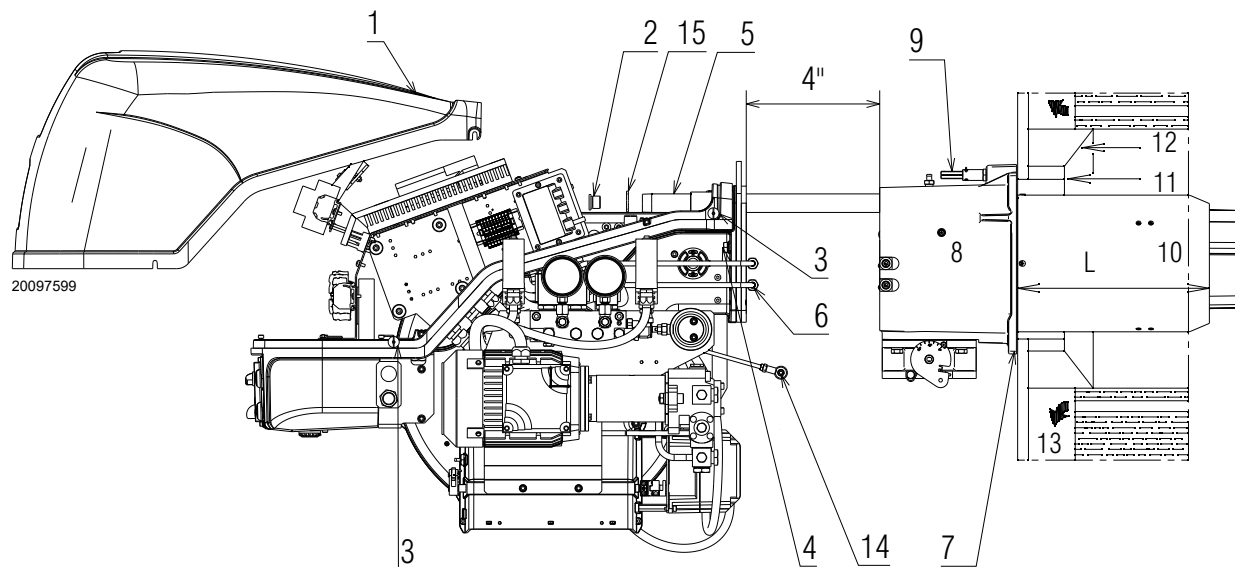
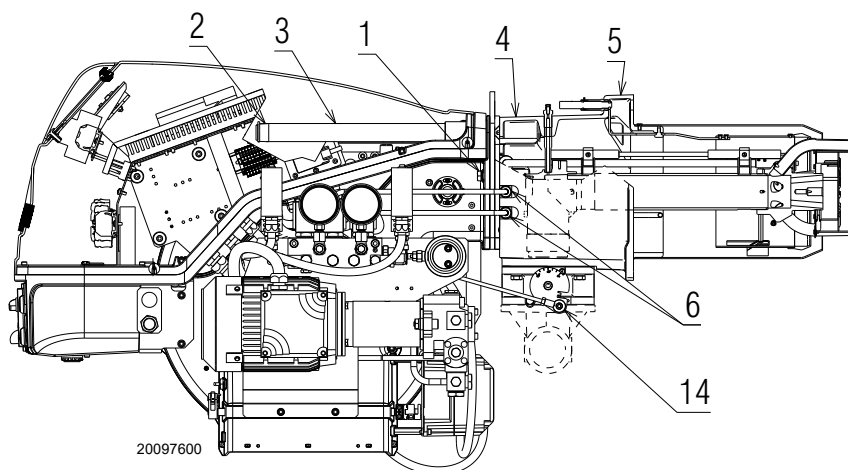

Fig. 12
Fig. 25
For boilers with front flue passes 13)(Fig. 12, page 20) or flame inversion chambers, insulation material 11) must be inserted between the refractory 12) and the blast tube 10).
For boilers having a water-cooled front, the insulation 11)-12)(Fig. 12, page 20) is not required unless it is required by the boiler manufacturer.
Detach the combustion head from the burner, (Fig. 12):
- Refit the burner to the slide bars 3)(Fig. 25) at approximately 4" from the sleeve 4) - burner positioned as shown in Fig. 12, page 20 - insert the ignition electrode cables.
- Slide the burner up to the sleeve so that it is positioned as shown in Fig. 25;
- refit screws 2)(Fig. 25) on slide bars 3) including the safety plate 15)(Fig. 12, page 20);